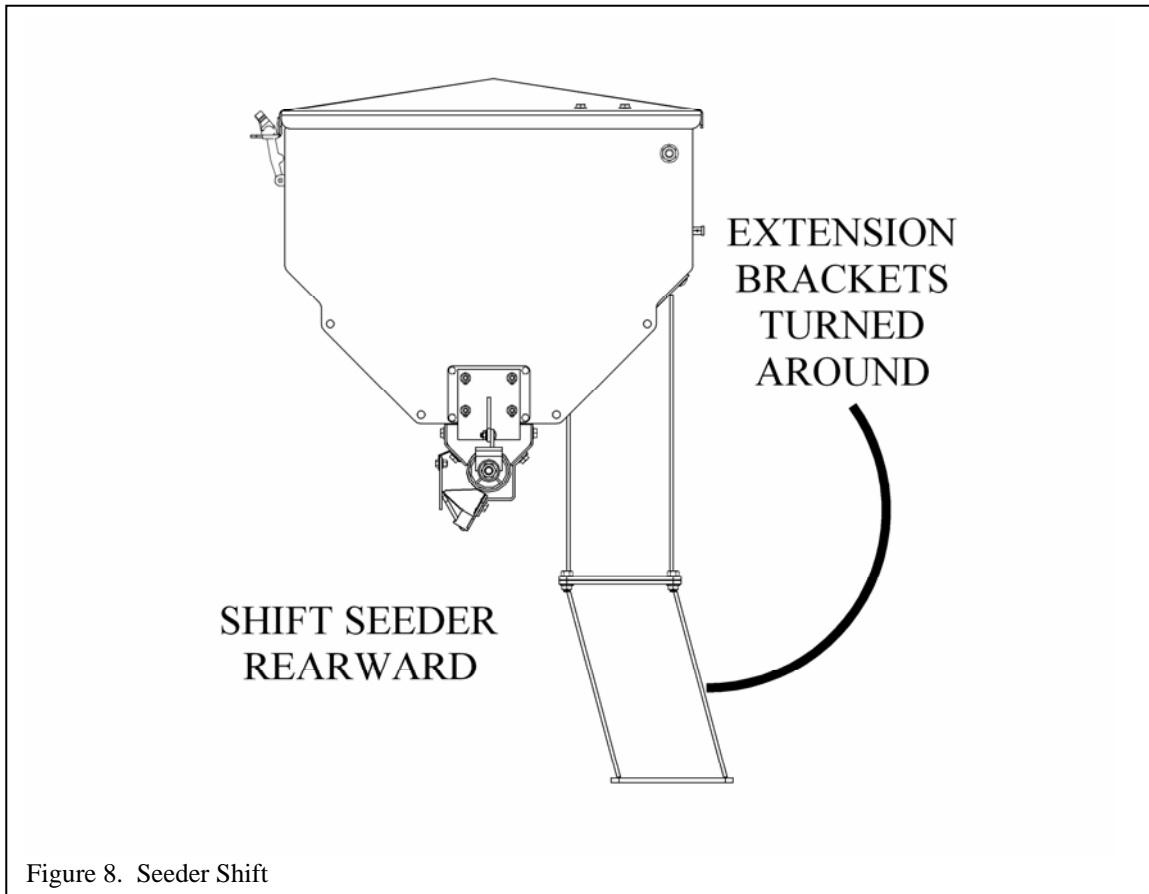

Figure 8. Seeder Shift
- Use a hoist to hold the hopper in the air while unfastening the extension mounts from the Agri-vator deck and rotating them rearward. After refastening, the hopper should be 6” behind its original position, Figure 8.